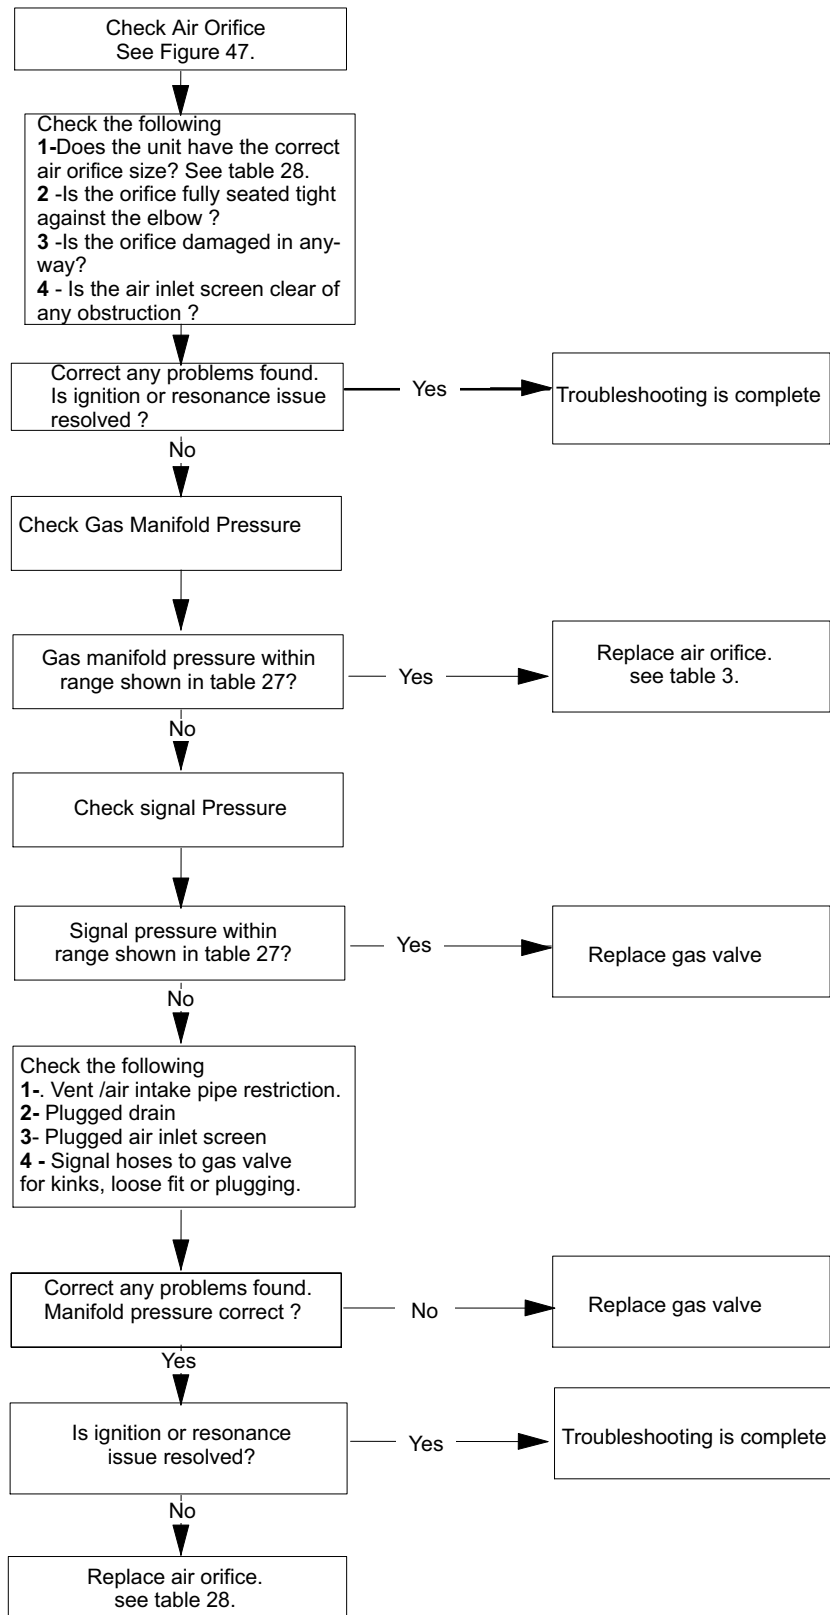

FIGURE 49
- 10 - Repeat manifold and signal pressure check. If unit ignites and manifold and signal pressure are correct, move on to combustion check. If unit still does not ignite or ignites with loud resonance go to Troubleshooting figure 49.